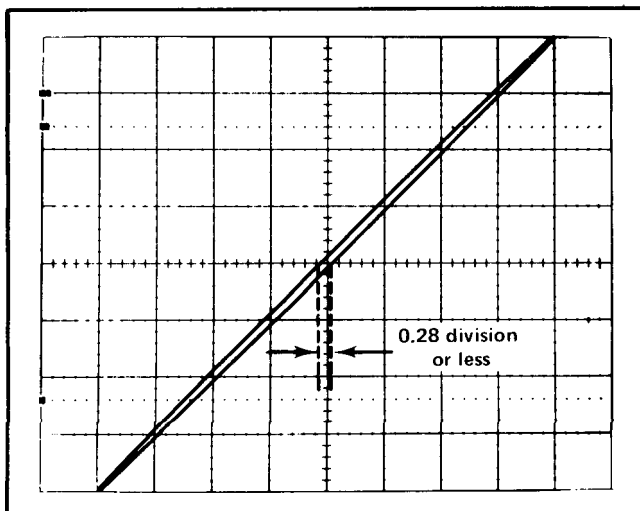

Fig. 3-7. Typical CRT display when checking X-Y phase shift.
e. CHECK—CRT lissajous display for an opening at the center vertical line of 0.28 division or less (indicates  $2^\circ$  or less phase shift; see Fig. 3-7).